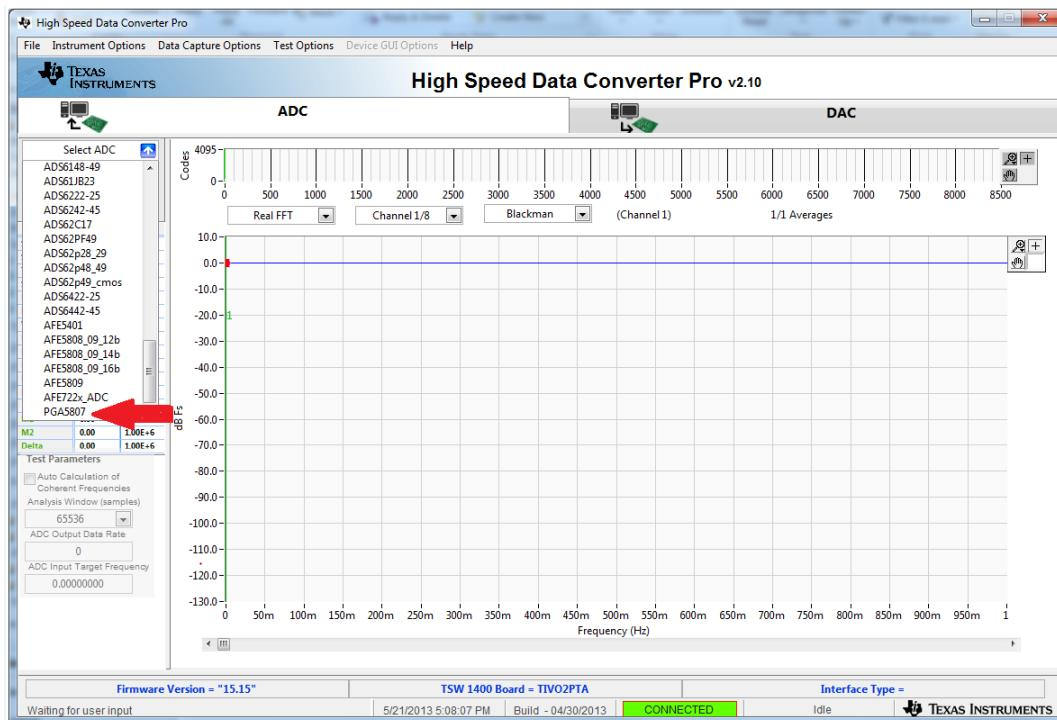

Figure 25. TSW1400 GUI Setup (d) 70
2. Select a device by clicking on the Blue arrow in the upper left corner of the *HSDCpro* GUI. Scroll down and select **PGA5807** as shown in Figure 25.